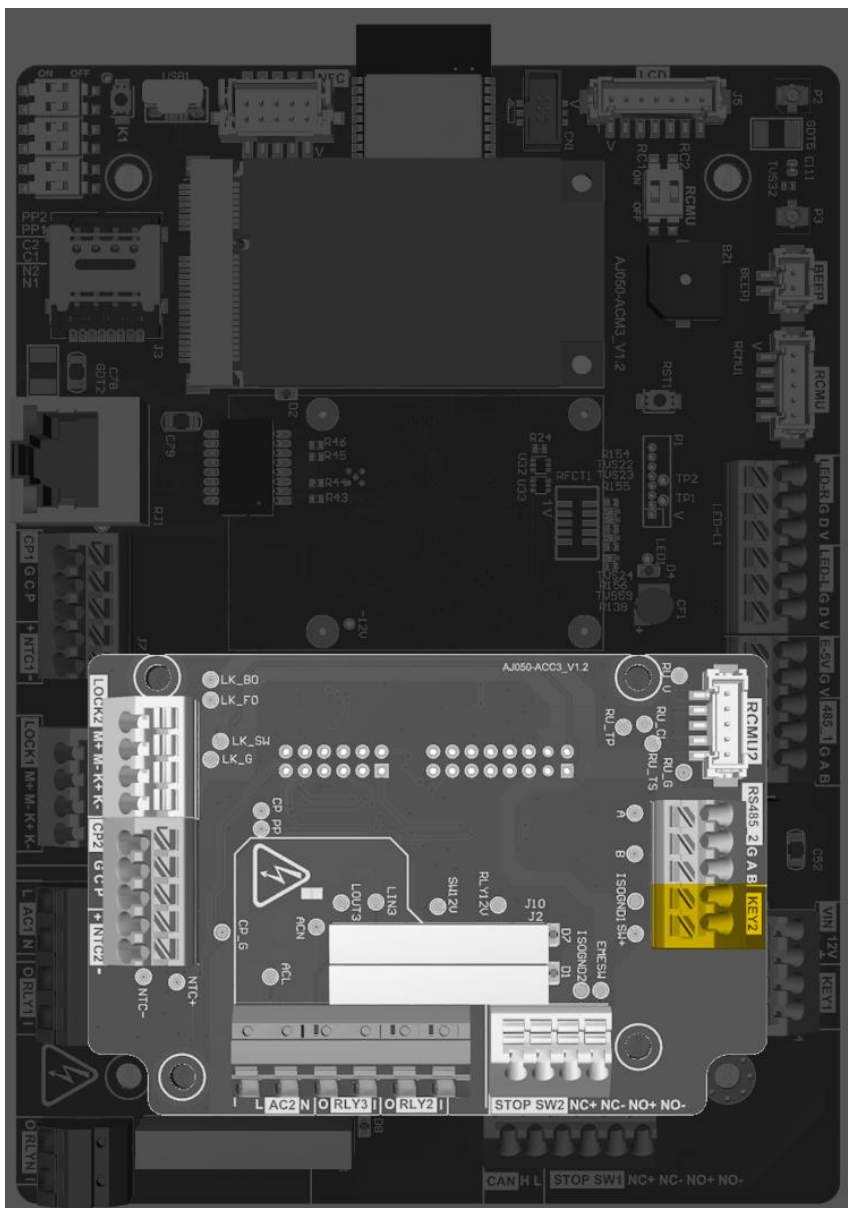

Fig. 1 Position of the KEY2 terminal
5. Locate the two unused terminals labelled **KEY2** on the daughter board of the EV charging station (see Fig. 1).